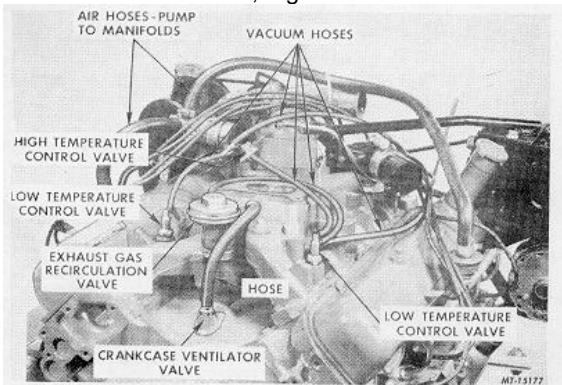

Fig. 9 Removing Air and Vacuum Hoses As Well As Crankcase Ventilator Valve and Hose
3. Remove air hoses from air manifold and pump. Also remove vacuum hoses from exhaust gas recirculating valve, low and high temperature control valves and distributor. Then remove crankcase ventilator valve and hose, Fig. 9.